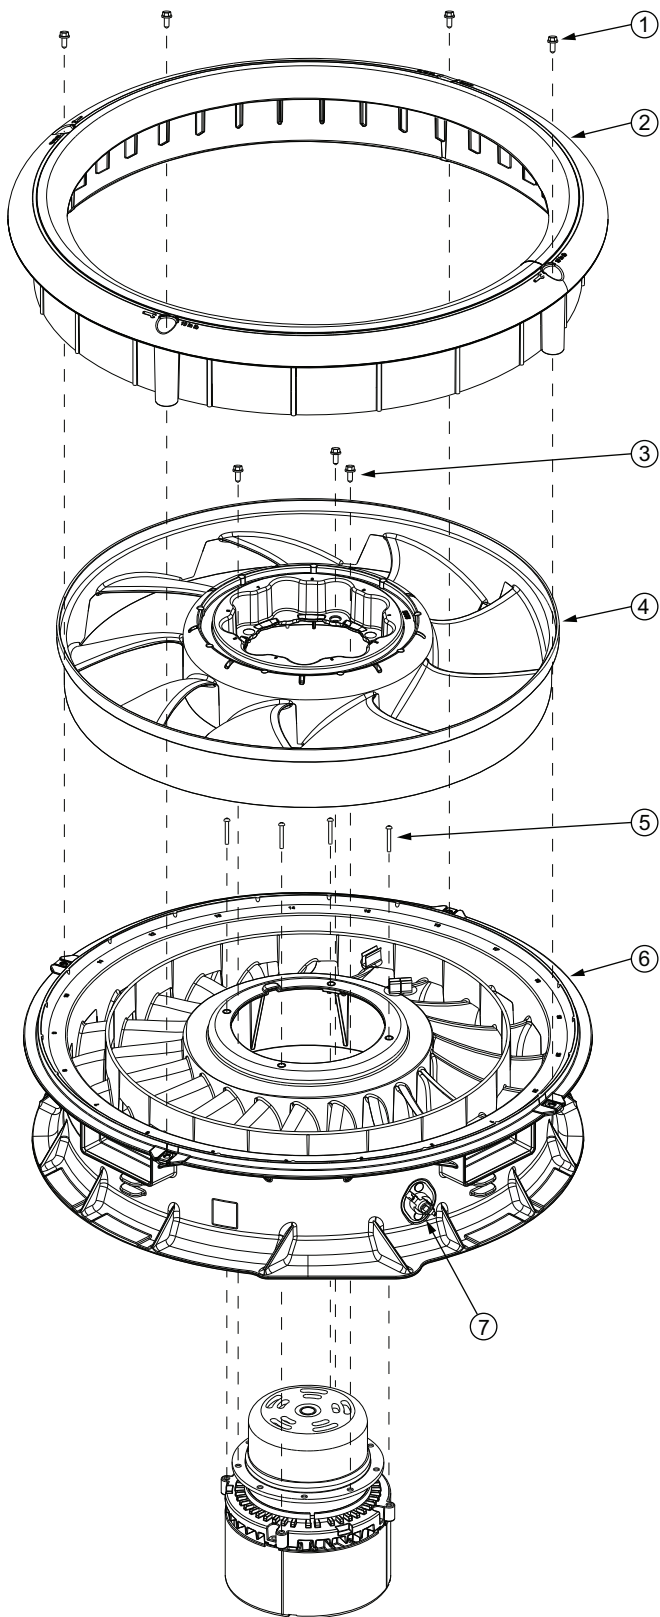
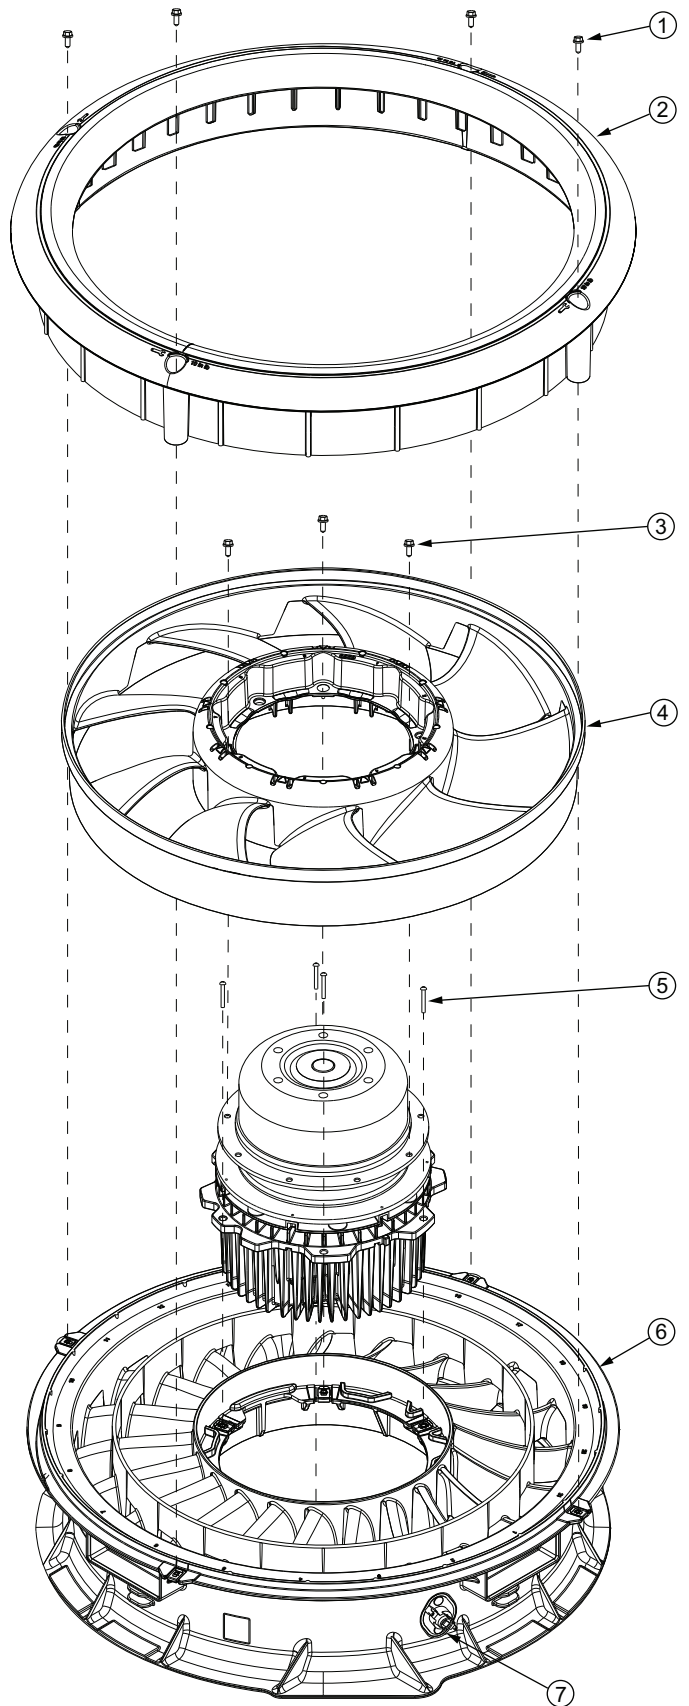

Fig. 44 — Fan Assembly for Units with 2.4 Hp Motor
Fig. 45 — Fan Assembly for Units with 3.0 Hp Motor
See Fig. 44 for 2.4 Hp motor units; see Fig. 45 for 3.0 Hp motor units.
1. See Fig. 44 for 2.4 Hp motor units; see Fig. 45 for 3.0 Hp motor units. Place motor on flat surface.